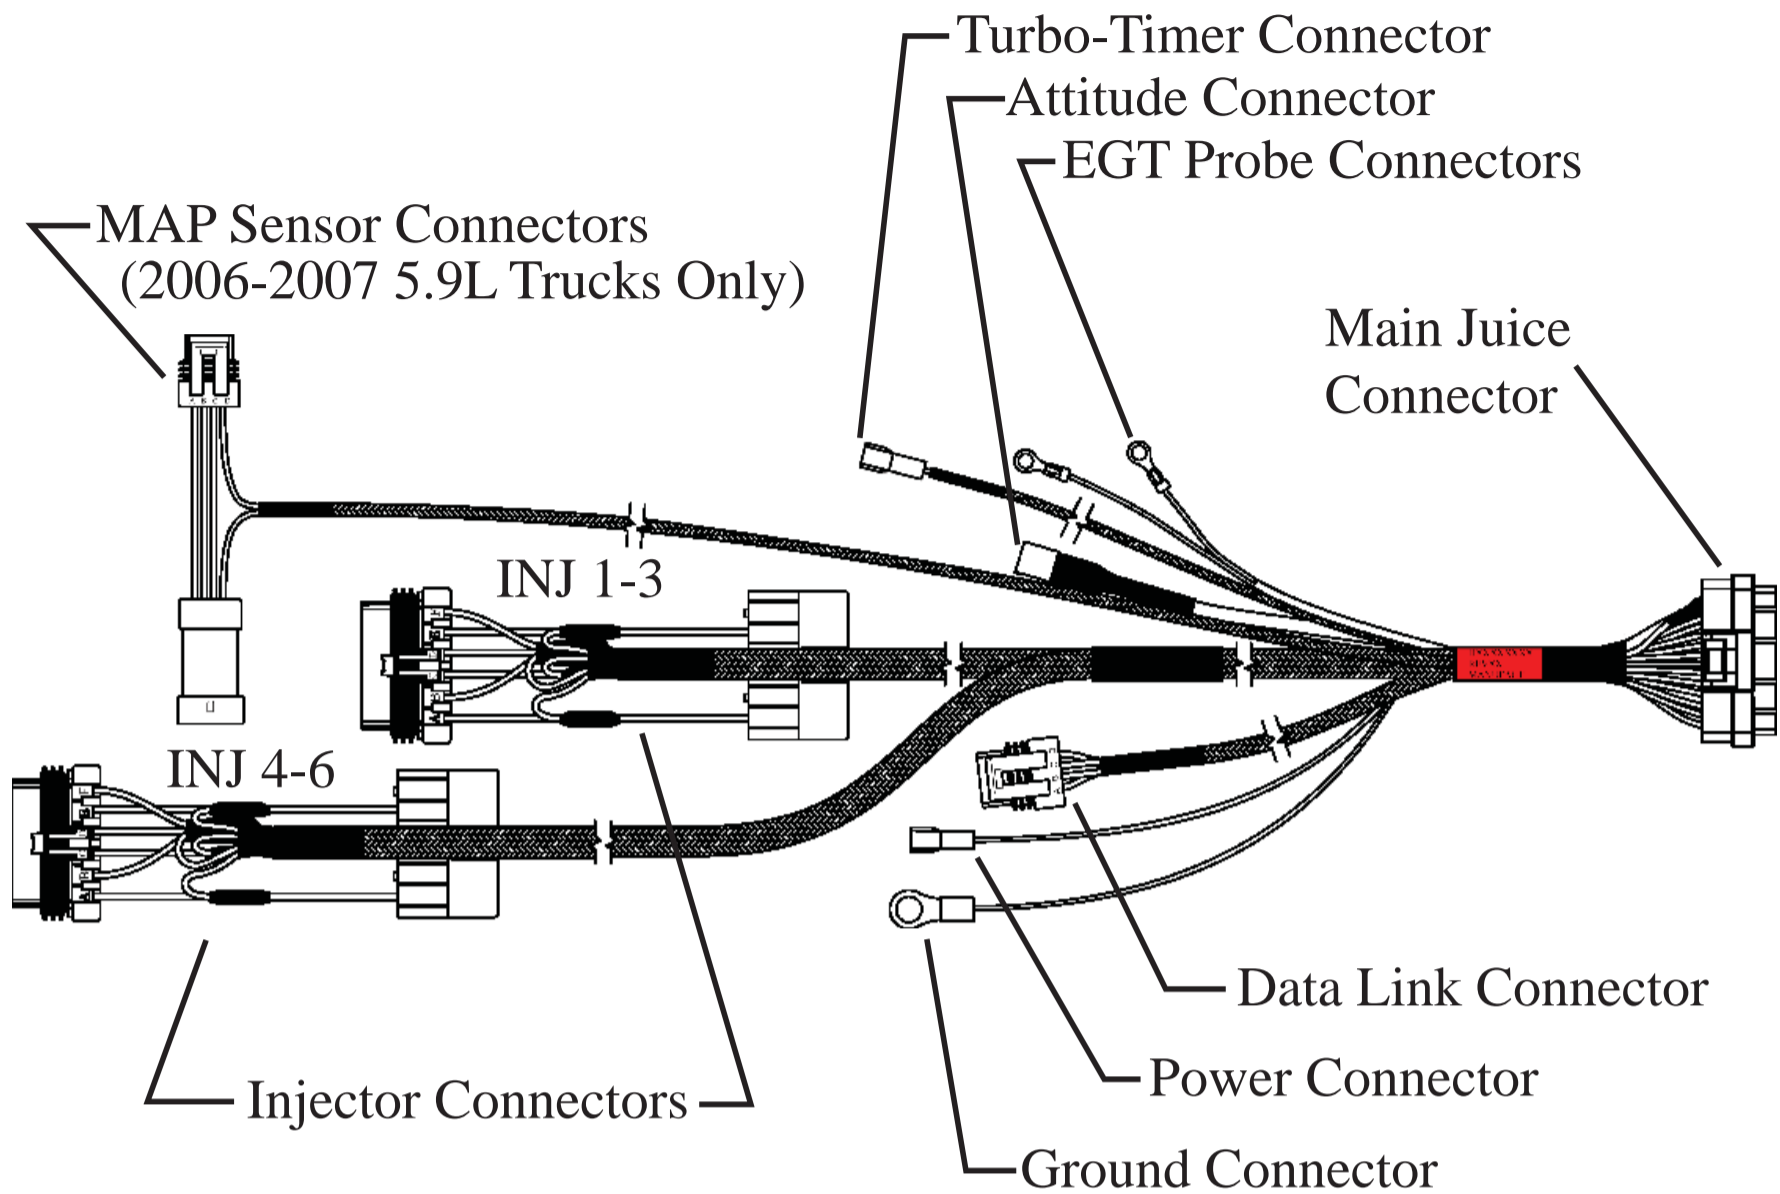

Figure 1
2. Add the black ground wire (see Figure 1) with the round terminal to the wires already on the bolt.